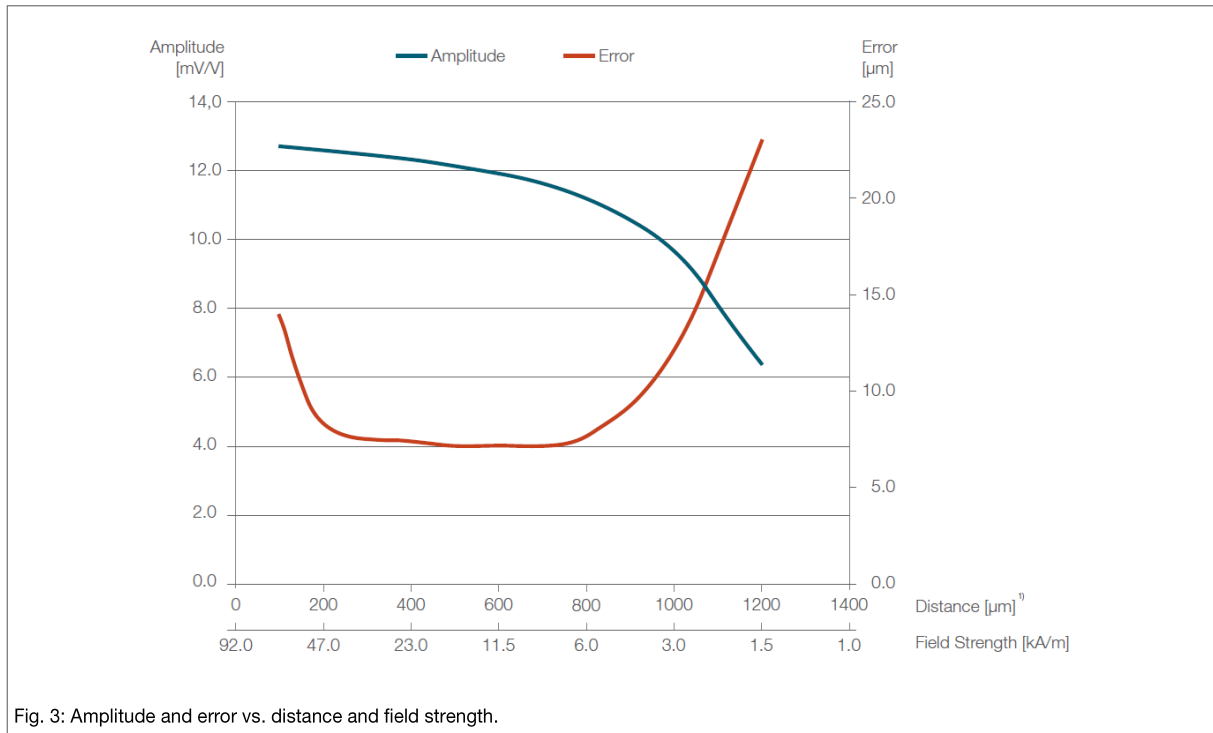

Fig. 3: Amplitude and error vs. distance and field strength.
11) See Fig. 3 for detailed information.